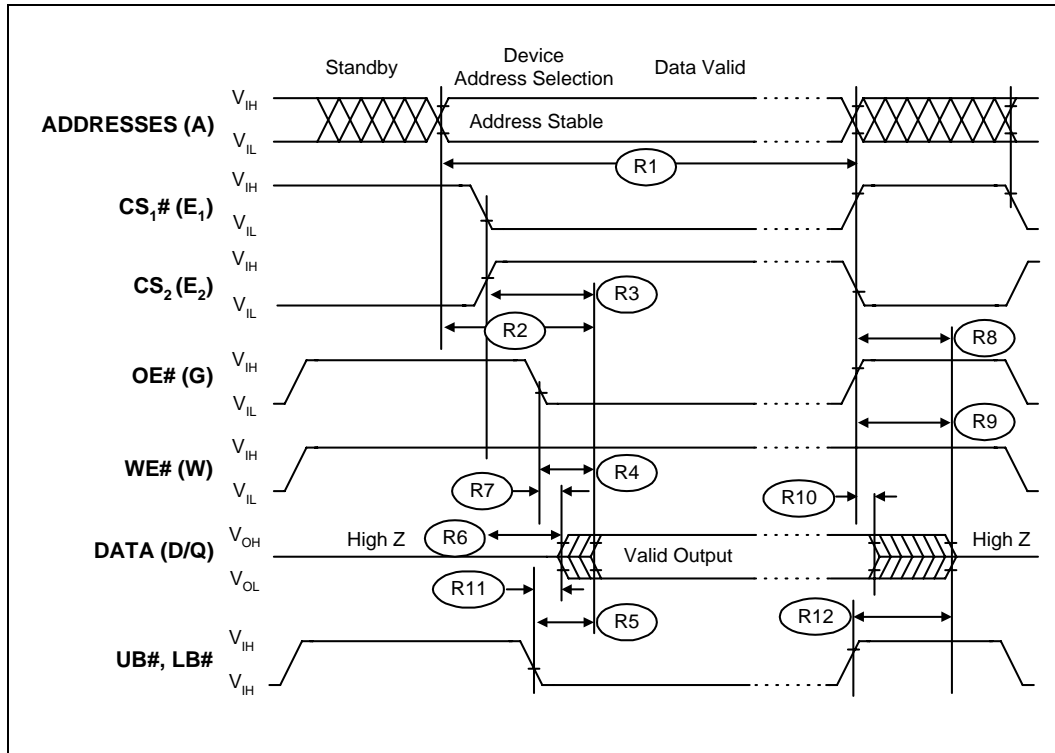

Figure 9. AC Waveform: SRAM Read Operations
1. See Figure 9 AC Waveform: SRAM Read Operations.